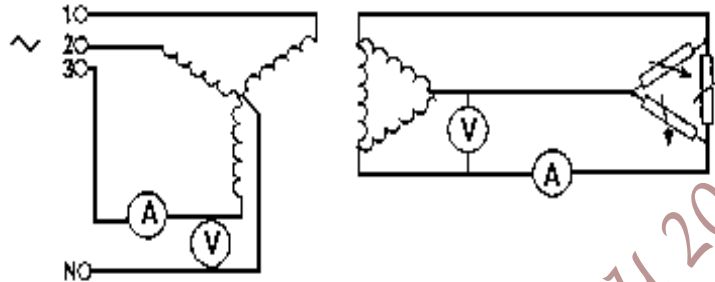

Figure 3-3
1. Set up the equipment as shown in Figure 3-3 “Star-to-Delta” connection.